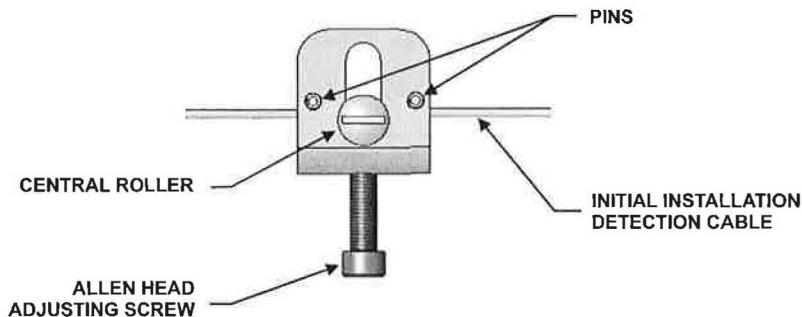

Figure 4-43. Cable Tension Block Assembly, P/N 9197220
23. Locate the Cable Tension Block Assembly. The adjusting screw and central roller must be in the uppermost position. Thread the detection cable through the cable tension block, passing over the two pins and under the central roller (see Figure 4-43).